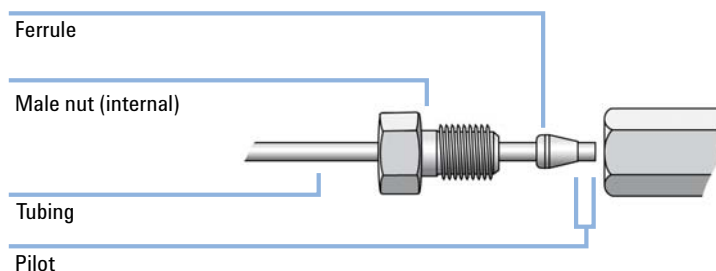

Figure 68 Definition of Terms for Tubing Connections
- 3 Open the connection and remove the assembly to inspect the pilot distance, see Figure 68 on page 153.